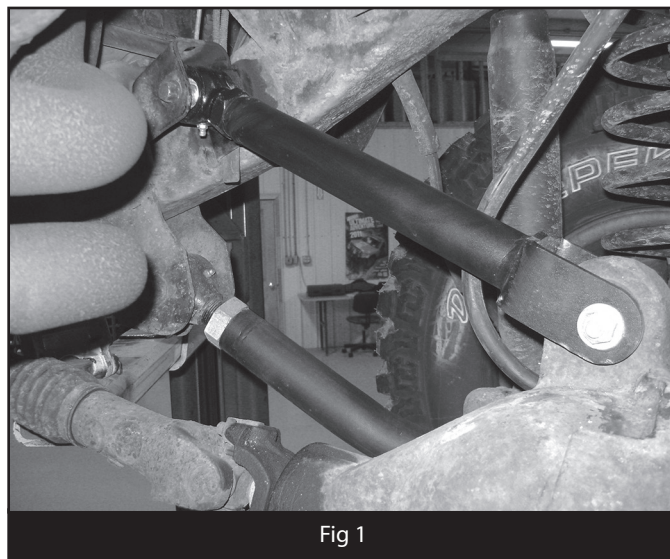

Fig 1
5. Install the new arm so that the grease fitting is accessible from the bottom (Figure 1). Fasten the arms to the axle with the hardware from bolt pack #738. Use the factory nut tab and bolt at the frame. Torque the frame mounting bolts to 35 ft-lbs. Leave axle hardware loose.